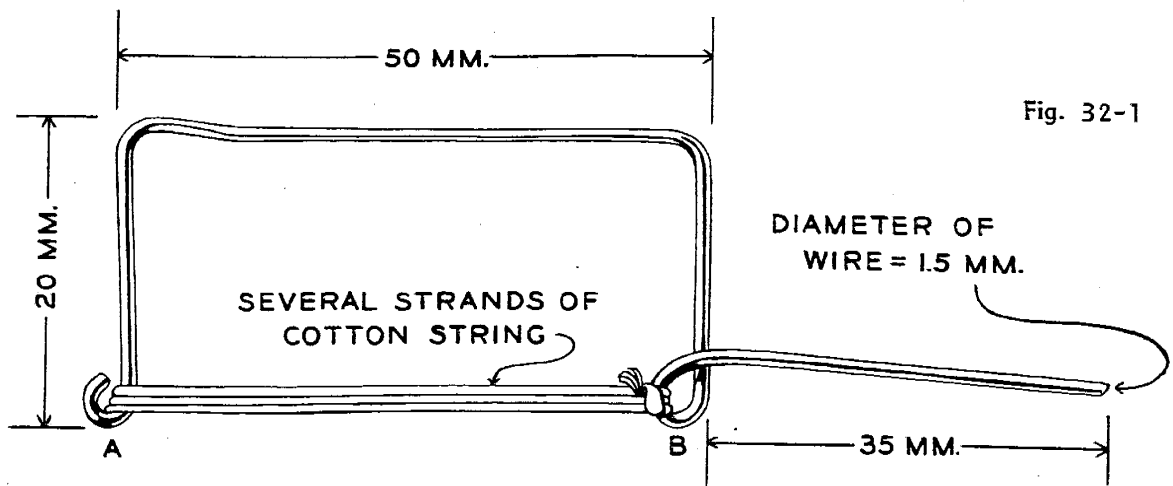
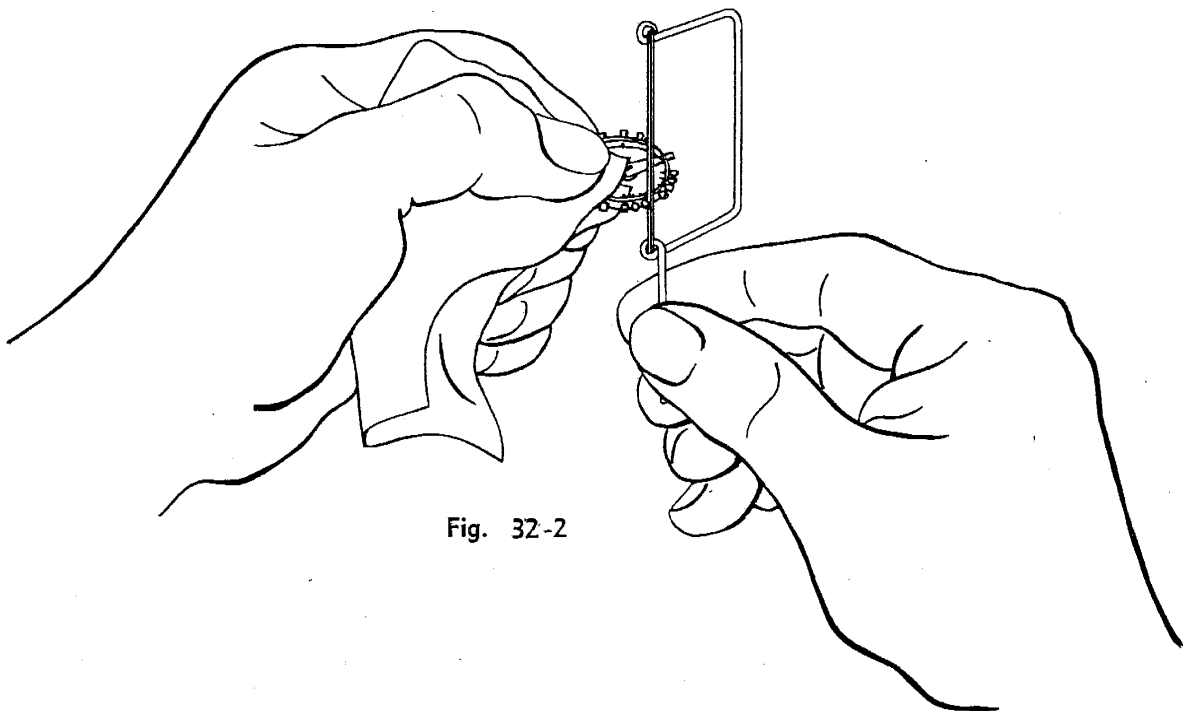

Fig. 32-1
Fig. 32-2
27. Polish balance wheel rim if necessary. To polish between the screws of a balance wheel, make a small bow of brass wire. Approximate dimensions are given in figure 32-1. Wind two or three loops of cotton store string from A to B, keeping it taut. Wet the string with alcohol and rub across a stick of rouge. Balance screws and rim of wheel are then polished as in figure 32-2. Brush balance with cleaning solution to remove all rouge.